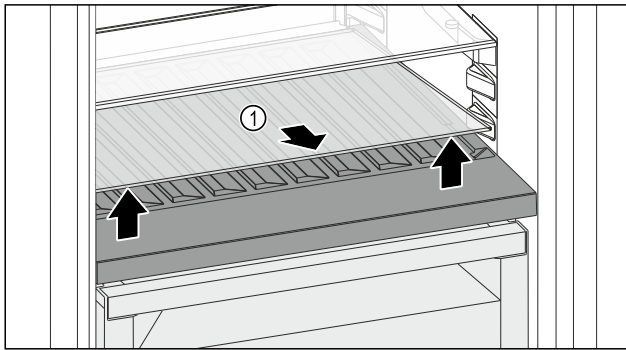

Fig. 138
- Lift the glass shelf Fig. 138 (1) at the front and remove.
- Store the glass shelf Fig. 138 (1) in a safe place outside the appliance.